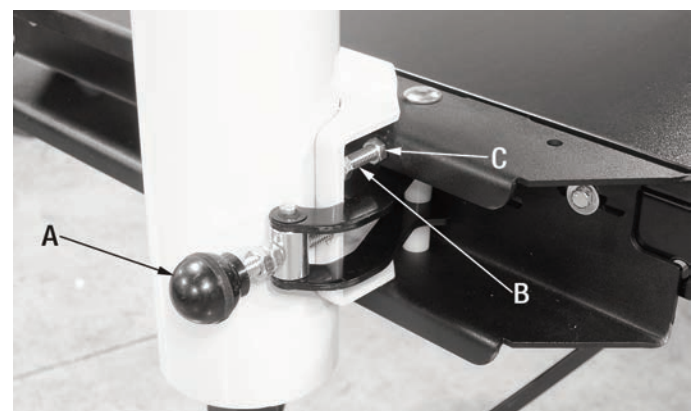

FIGURE 8
- 2) Secure the boom in position using the boom lock knob (A) Fig.8 as shown.
- 1) A stop bolt (B) Fig.8 sets the parallel alignment of the boom in relation to the blade. Adjust the bolt in or out as needed, once the adjustment is made make sure to tighten the stop bolt hex. nut (C).